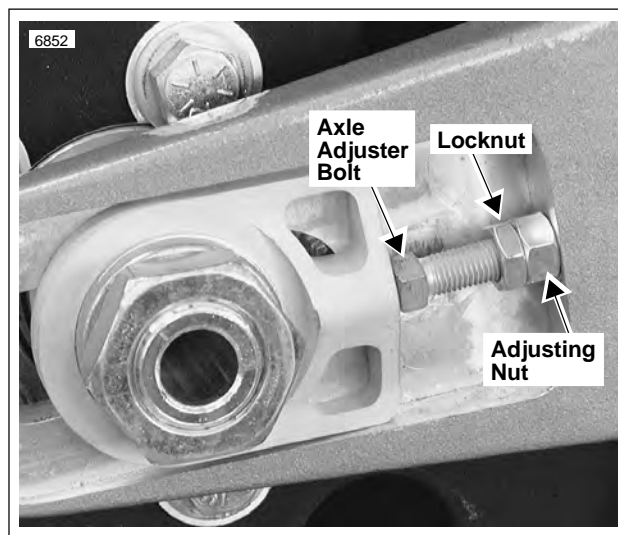

Figure 1-25. Axle Adjuster Bolt, Right Side Shown
See Figure 1-25. Use an automotive-style ignition wrench to hold axle adjuster bolt in place during Step 2.
- c. See Figure 1-25. Repeat this step until the distance between the flat on the axle carrier and the flat of the swingarm is the same on both sides of the rear wheel and belt deflection is correct.